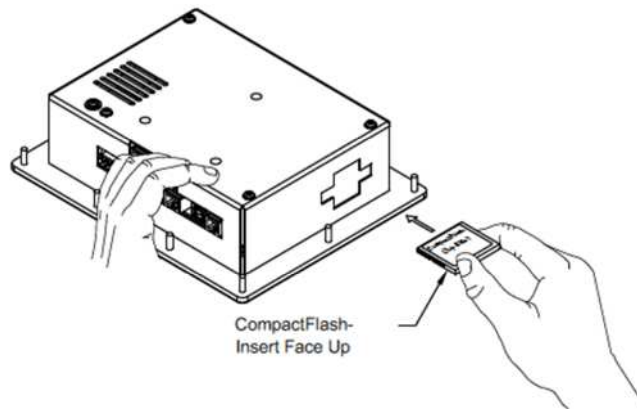

Figure 23 CompactFlash Card Installation
The MCX-32 controller has a feature that allows data logging when a CompactFlash (CF) memory card is installed. The CF card must be installed in the CF slot located on the back of the controller's display unit before the controller is powered up (Figure 23). The controller will automatically format the card and create the necessary files for data logging. Data is recorded onto these files which can then be viewed from the controller's Compact Flash screen at the user's convenience. The CF card can also save the controller's current configuration and be used to load its saved configuration to other MCX-32 controllers. See Section 5.4.12 for more information regarding the data logging feature and Compact Flash screen.